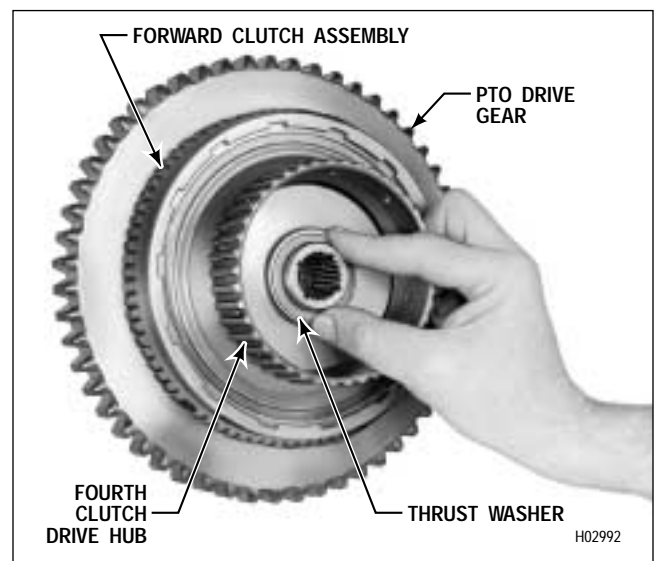

Figure 7-22. Installing Thrust Washer at Rear of Forward Clutch Hub
(1) Install the thrust washer onto the hub of the forward clutch assembly, retaining it with oil-soluble grease (Figure 7-22).
(2) Install forward clutch and turbine shaft assembly. The hub splines engage the transmission main shaft. The splines on the fourth clutch drive hub engage the internal splined plates of the fourth clutch.
(3) Rotate the forward clutch assembly one or two revolutions, while pushing it downward. Make sure all the fourth clutch internal-splined plates are engaged.